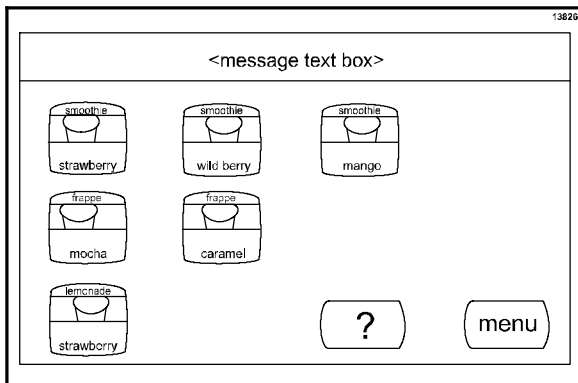

Figure 22
- Press the Menu key to display the Main Menu screen. (See Figure 22.)